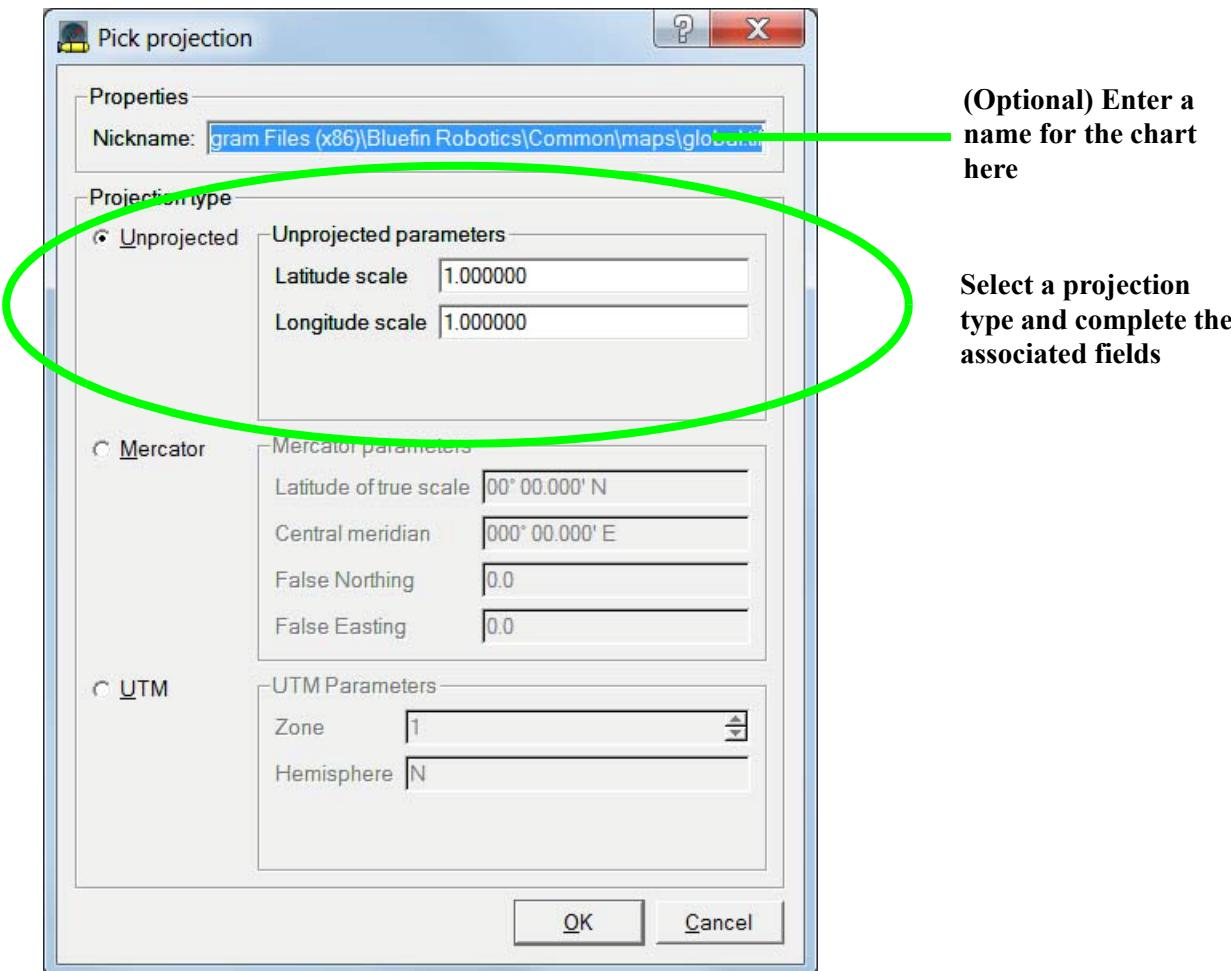

Figure 136: Projection Type Selection Window
2. The Pick Projection window opens (Figure 136).